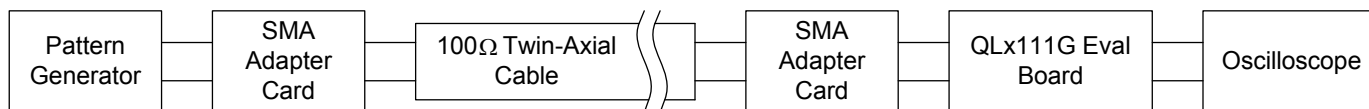
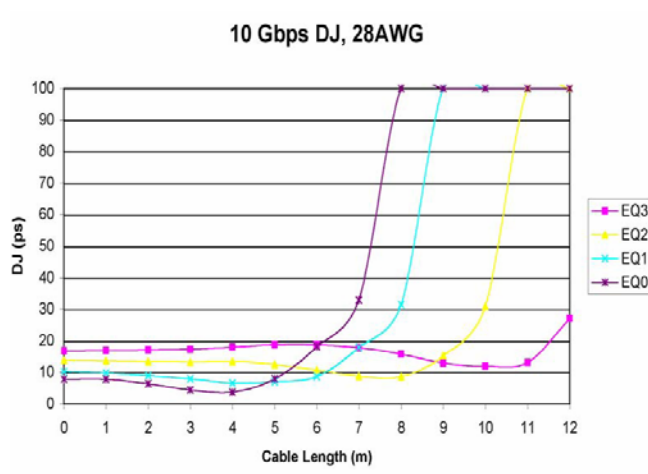

FIGURE 1. DEVICE CHARACTERIZATION SET UP
FIGURE 2. JITTER vs CABLE LENGTH AT 10Gb/s (BOOST LEVELS 0-3)
Performance is measured using the test setup illustrated in Figure 1. The signal from the pattern generator is launched into the twin-ax cable using an SMA adapter card. The chip evaluation board is connected to the output of the cable through another adapter card. The QLx111GRx output signal is then visualized on a scope to determine signal integrity parameters such as jitter (Note 7).
- 7. Prior to the tapeout, the data in Figures 2 and 3 represents simulations approximating the conditions of setup in Figure 1, not measured data.